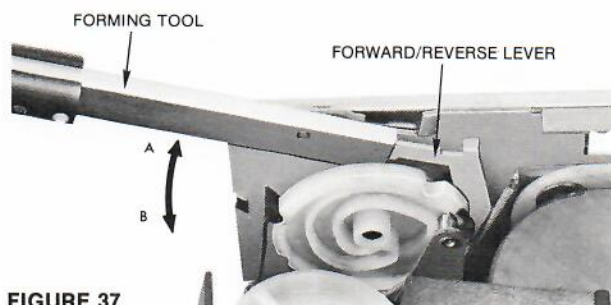

FIGURE 37
1. Place the FORMING TOOL (Tool No. TL2071) on the FORWARD/REVERSE LEVER, Figure 37.